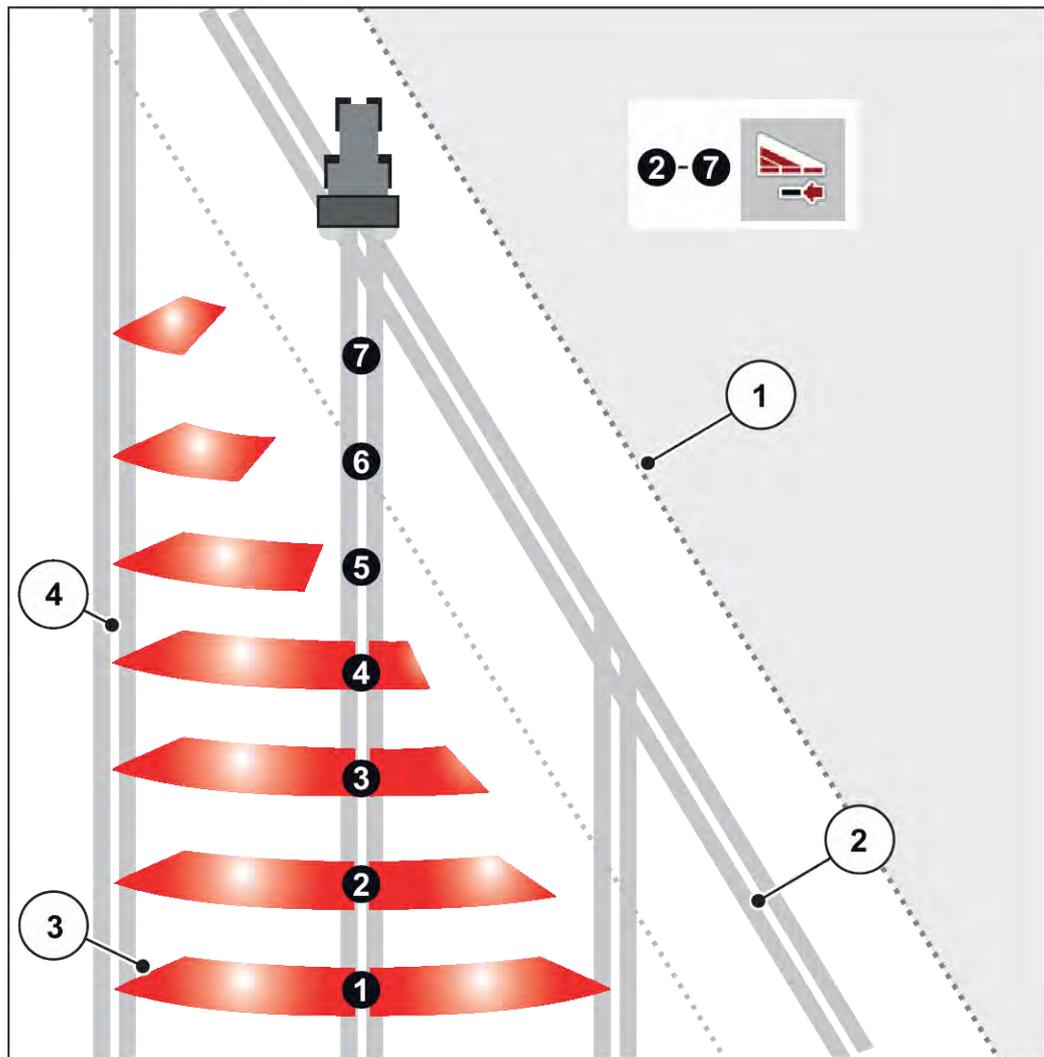

Fig. 41: Automatic section control
- Section control is possible from the outside to the inside or vice versa. See *Fig. 41 Automatic section control*